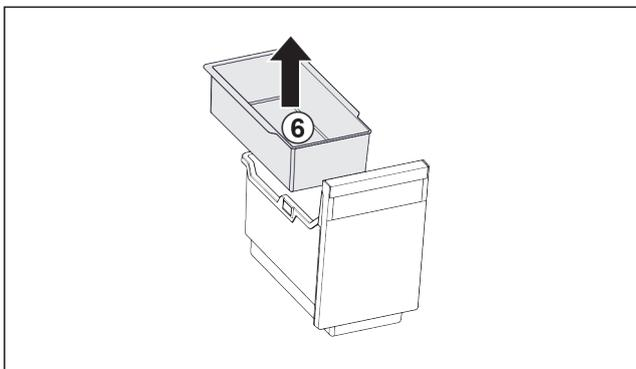

Fig. 42
- ▶ Remove the hang-on tray Fig. 42 (6).